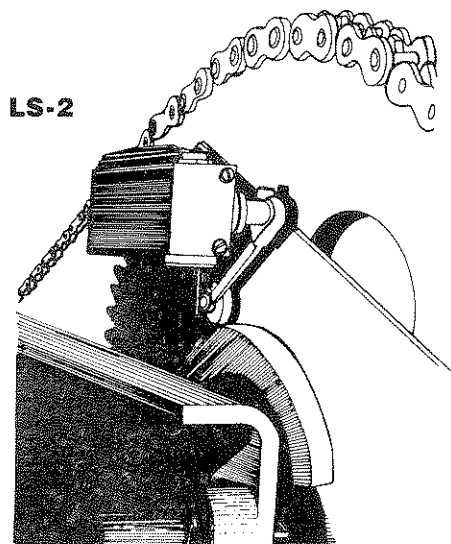

Fig. 39
6. Check stopping position of switch arm roller on cam. It should be on the high part of cam, see Fig. 39.
10. Repeat Steps 2 through 5 and Step 8 until the switch arm roller is on the high part of the cam, see Fig. 39.